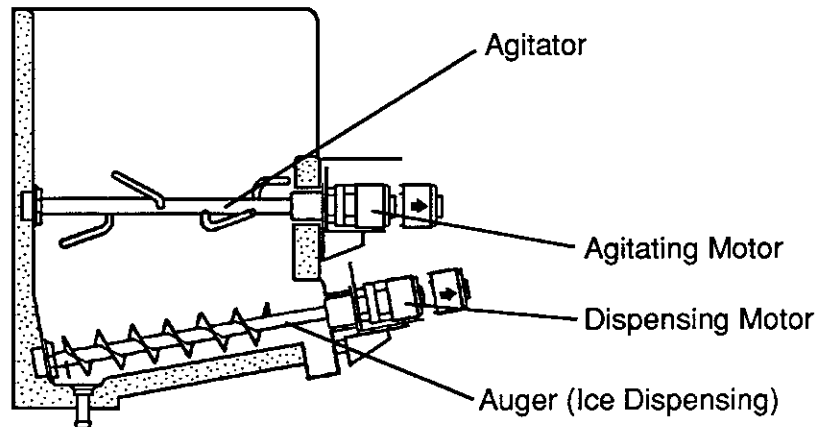

Fig. 18
- 2) Remove the thumbscrews, and move the Agitating Motor(s) and the Dispensing Motor toward you. Then remove the Agitator(s) and the Dispensing Auger. See Fig. 18.